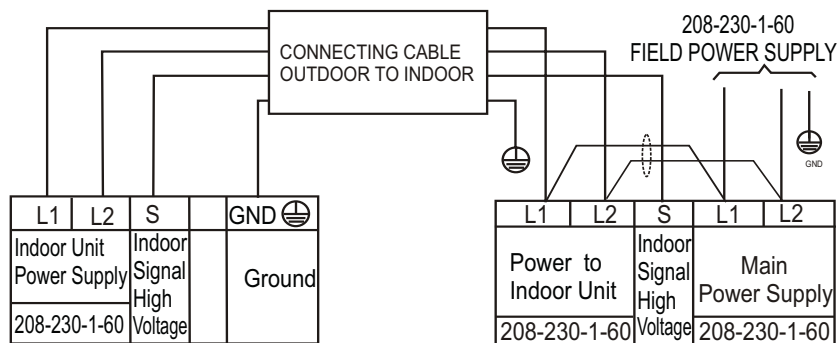
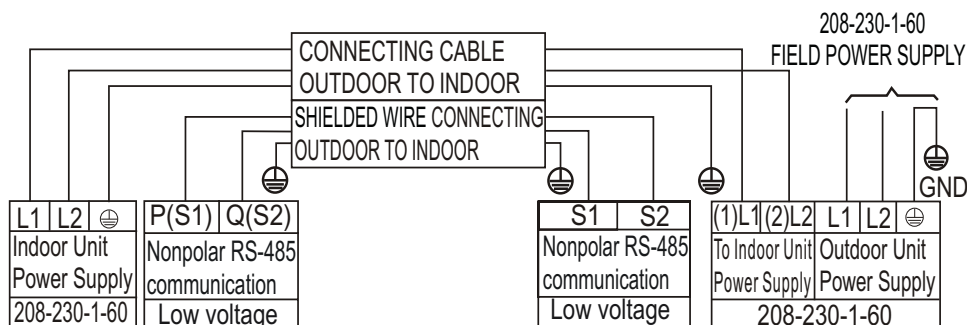

Fig. 43 — Connection Diagrams (sizes 09K to 24K)
Fig. 44 — Connection Diagrams (sizes 36K and 58K)
2. Connect the wiring from the outdoor unit per the connection diagram (See Fig. 43 — on page 16 and See Fig. 44 — on page 16).